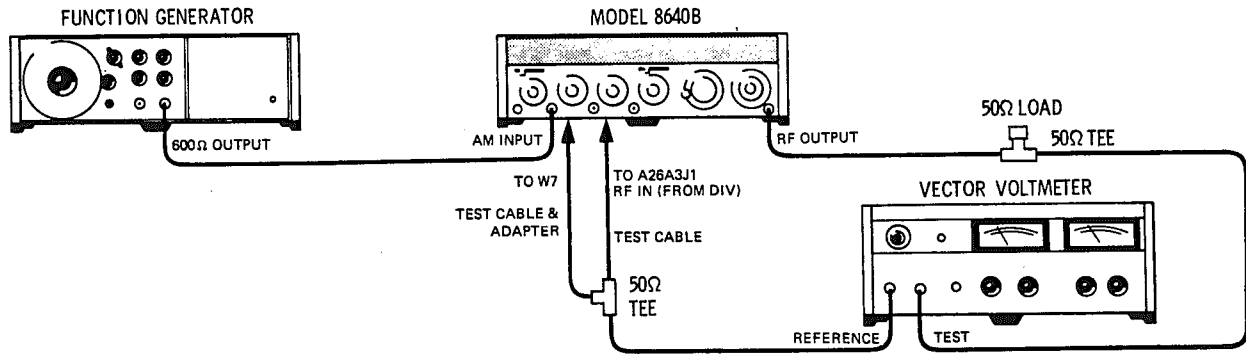

Figure 4-21. Peak Incidental Phase Modulation Test Setup
2. Finish connecting equipment as shown in Figure 4-21 after setting Signal Generator's controls as follows: